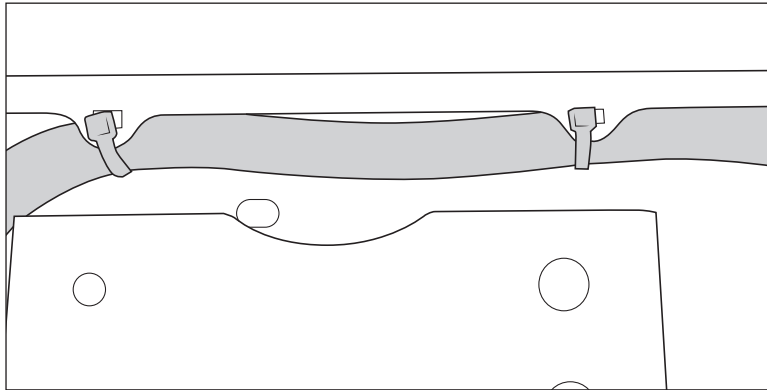

Figure 15
5. Run the factory harness up and over the frame mounting bracket as shown below (fig. 15). Standard zip ties can be used to secure the harness down below the top edge of the bumper.